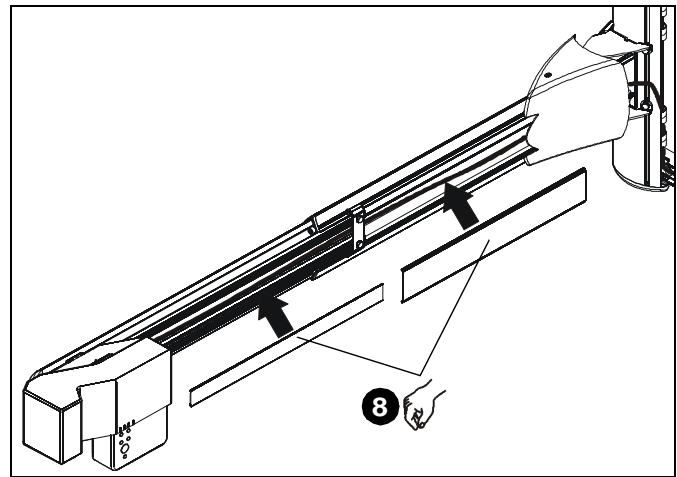

Figure 26
8. Replace removed cable management covers (if necessary). Insert one side of cover into groove and press down firmly on the cover on the other side until it snaps into the other groove. (See Figure 26)